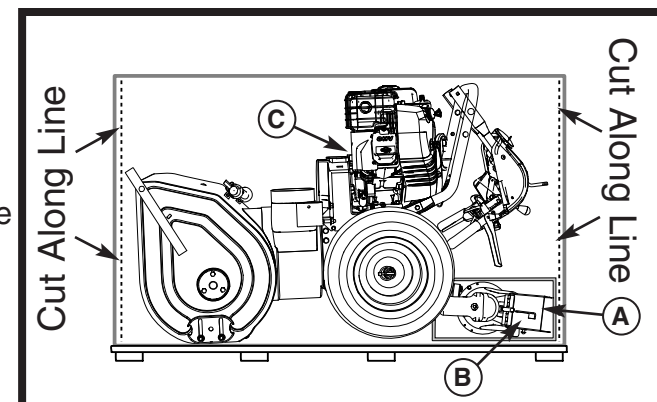

Figure 2
- Remove the straps or banding and cardboard from the crate. Remove the parts bag (A, Figure 2) from inside the chute (B). Locate and remove the manual packet (C).